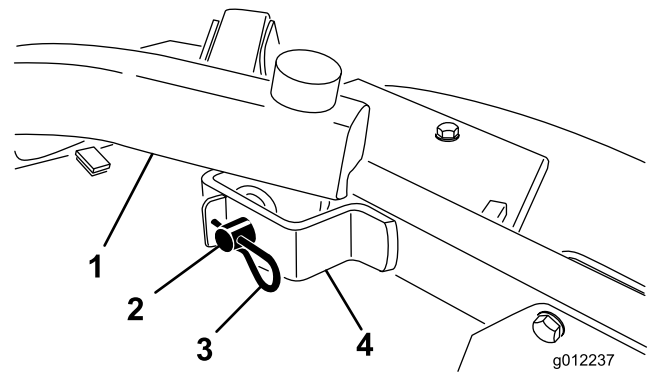

Figure 24
4. Remove the hair pin cottes and clevis pins securing the lift arms to the castor arm brackets (Figure 24).